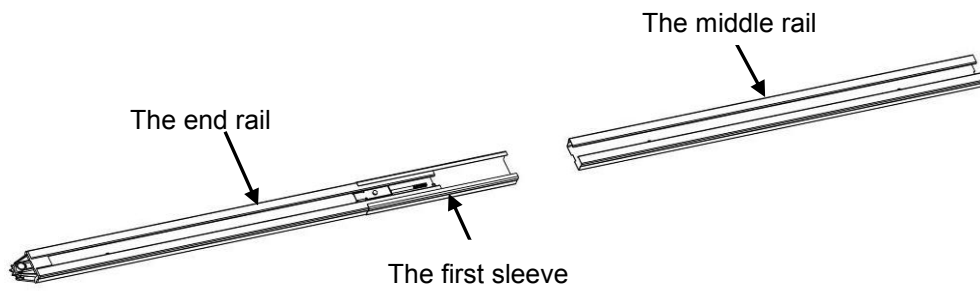

Fig. 7
1. As Fig.7,slide the end rail into the 1st sleeve, slide the middle rail into the 1st sleeve;